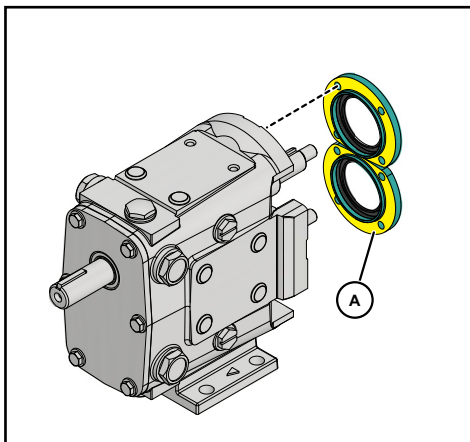

Figure 44 - Remove Sealant from Retainer
5. Remove the silicone sealant (Figure 44, item A) from the bearing retainer and gear case.